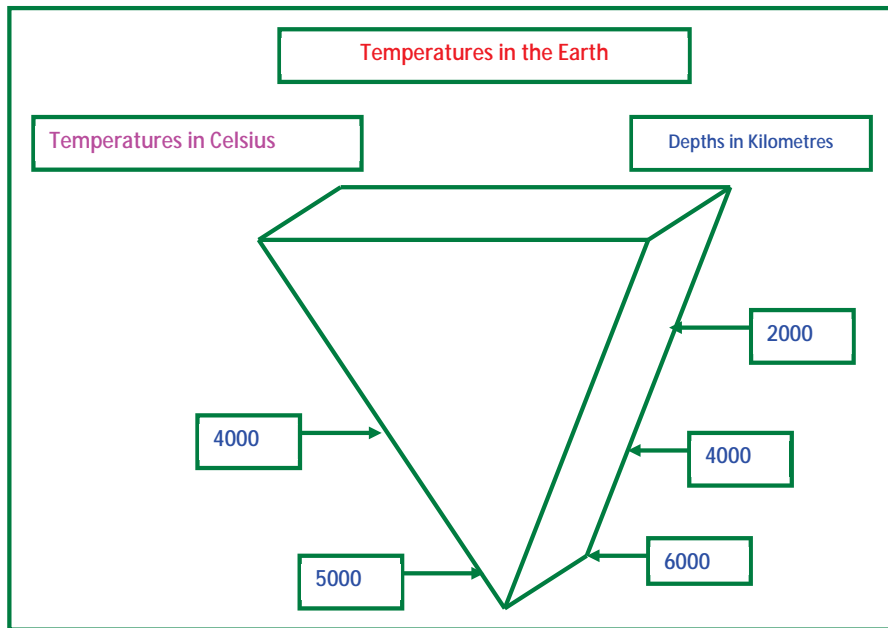

Figure 3: Earth energy budget
Earth energy (EE) heat pump is one of the most efficient means available to provide space heating/cooling for homes and offices (Figure 3). It transfers the heat located immediately under the earth's surface (or in a body of water) into a building in winter, using the same principle as a refrigerator that extracts heat from food and rejects into a kitchen. A heat pump takes heat from its source at low temperature and discharges it at a higher temperature, allowing the unit to supply more heat than the equivalent energy supplied to the heat pump. An Earth Energy system relies on the 51% of solar energy that is absorbed by the land and water.